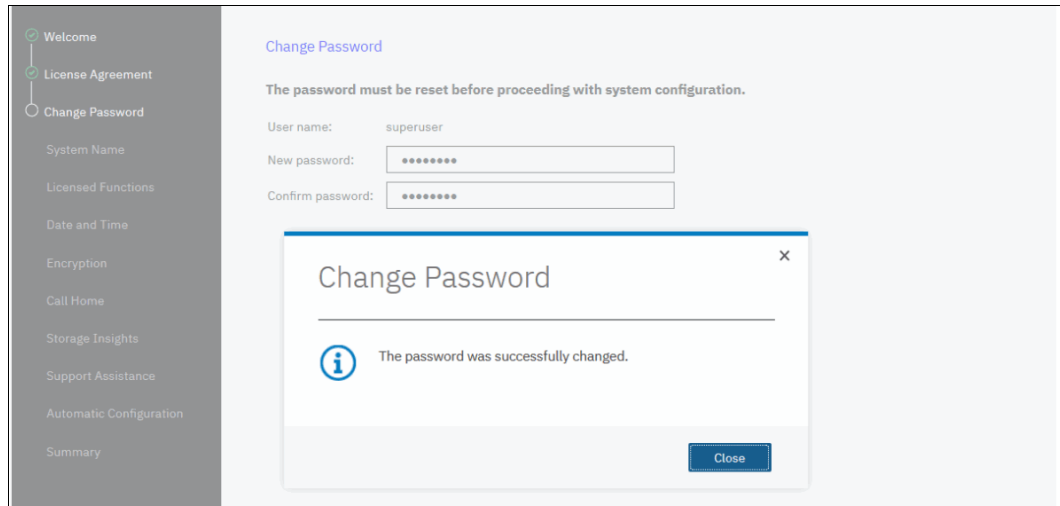

Figure 3-12 System Setup: Changing the password for the superuser
4. Enter a new password for the superuser, as shown in Figure 3-12. A valid password is 6 - 64 characters and cannot begin or end with a space. Also, the password cannot be set to match the default password. For more information, see 3.5.2, “Configuring password policies” on page 142. Click **Apply** and then **Next**.